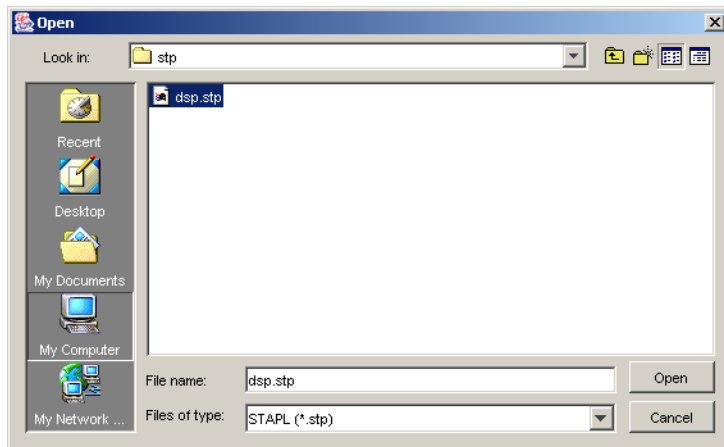

Figure 3-4. Open Dialog Box
1. You can click the *Open File* button in the toolbar, or from the *File* menu, you can click *Open*. The Open dialog box appears, as shown in Figure 3-4.